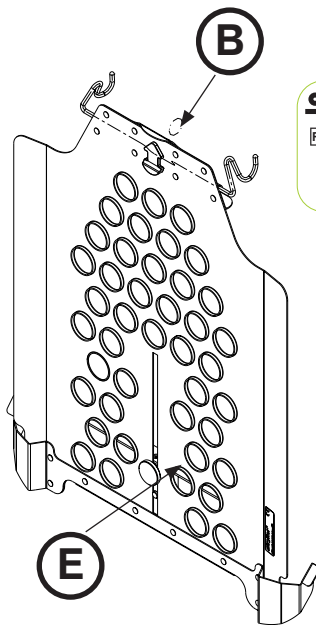
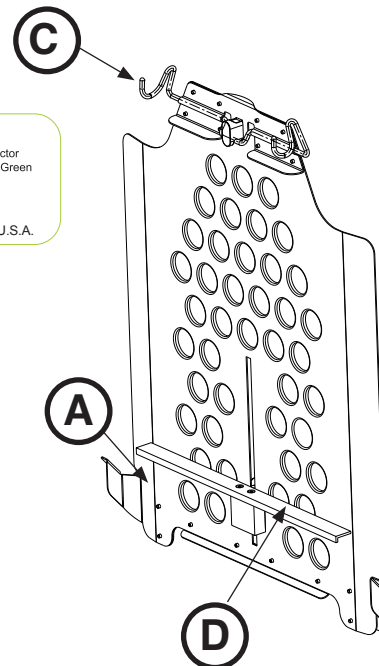

Figure 55: Upright X-Ray Cassette Holder Outside View
Figure 56: Upright X-Ray Cassette Holder Inside View
2. Position the upright cassette holder, placing the lower retainer guides (A) under the fowler weldment bar (Figure 56).
4. Insert and remove cassettes from the upright cassette holder from either side of the cassette holder or pull up on the yellow arrow to release the wire latch (B) on the upright cassette holder, releasing the upright cassette holder from the fowler weldment, and then position the cassette in the holder.
5. Loosen the knob (E) on the back side of the upright cassette holder and adjust the cassette support rail (D) to position the cassette in the desired location (Figure 55). Tighten the knob to secure the cassette support rail in place.
1. With the fowler raised, pull up on the yellow arrow (B) to release the wire latch (C) on the upright cassette holder from the fowler weldment bar (Figures 55 and 56).
2. Lift up on the upright cassette holder to release the lower retainer guides (A) on the upright cassette holder from the fowler weldment bar (Figure 56).